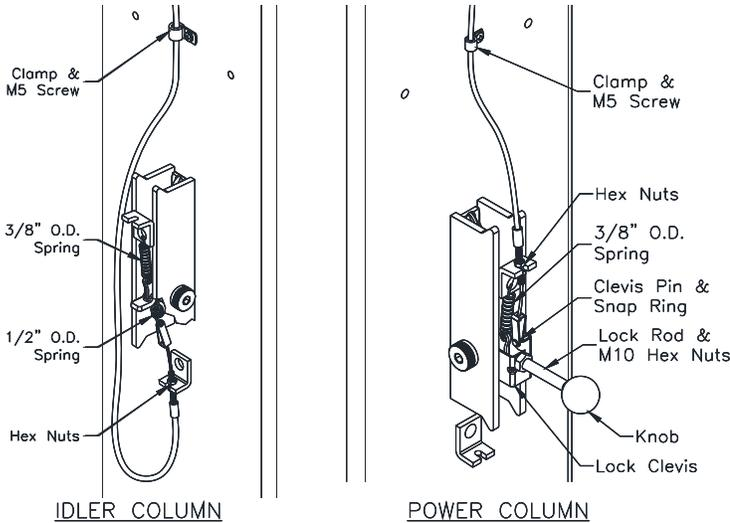

Fig. 8 – Lock Assembly
- 29) Attach Mechanical Lock Release Cable Assembly to each lock pawl. See Fig. 8.